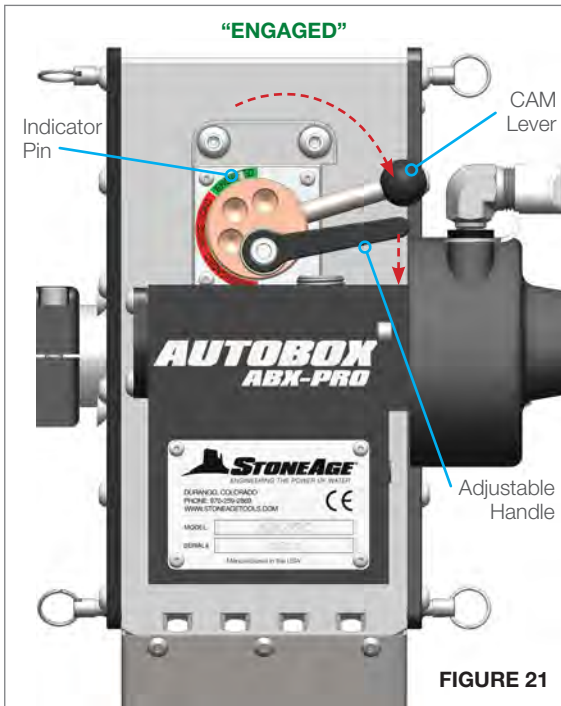

FIGURE 21
32. Rotate the Cam Lever clockwise to the **“Engaged”** position to tighten the Idler Roller down onto the hose. There should be a slow slip on the hose. If the slip is too tight or loose, move the Eccentric Lever off until a slow slip is obtained. Once the slip level is achieved, push down on the Adjustable Handle to tighten the bushing assembly. **(Figure 21)**